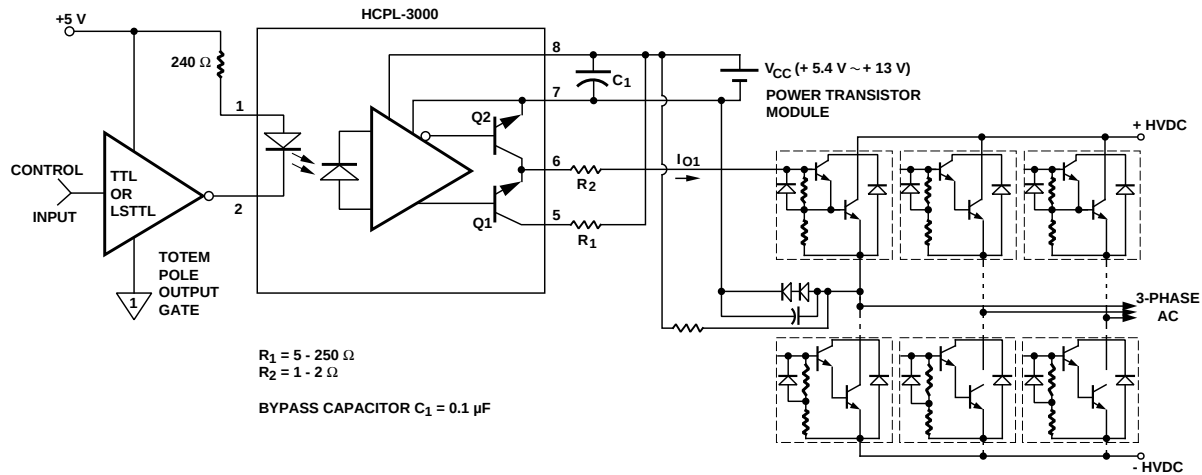

Figure 1. Recommended Output Transistor Protection and Typical Application Circuit.
THE USE OF A 0.1μF BYPASS CAPACITOR CONNECTED BETWEEN PINS 8 AND 7 IS RECOMMENDED. ALSO, CURRENT LIMITING RESISTORS ARE RECOMMENDED (SEE FIGURE 1, NOTE 2, AND NOTE 7).
amounts of current. Figure 1 describes a recommended circuit design showing current limiting resistors R₁ and R₂ which are necessary in order to prevent
- R₁ sets the base current (I_{O1} in Figure 1) supplied to the power bipolar device. R₂ limits the peak current seen by Q2 when the device is turning off. For more applications and circuit design information see Application Note "Power Transistor Gate/Base Drive Optocouplers."